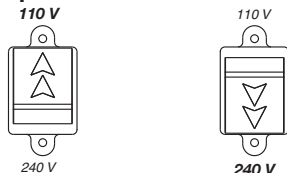

Fig. 1
**For models "DV," check that the arrows on the voltage supply selector key cover (Fig. 1) are pointing to the voltage value required.**